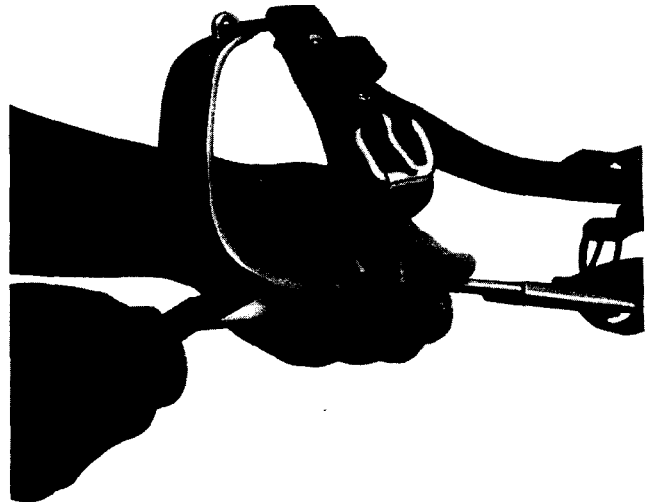

Fig. 20—Honing Inner Surface
7.04 Hone the inner surface of the gaff by starting the stroke near the leg iron and continue over the rounded curve of the tip as indicated in Fig. 20. Stop the honing stroke before the stone slides off the end of the gaff to prevent dulling the tip. About 20 to 25 strokes of the honing stone should be enough. ***Do not attempt to reshape the tip of the gaff.***